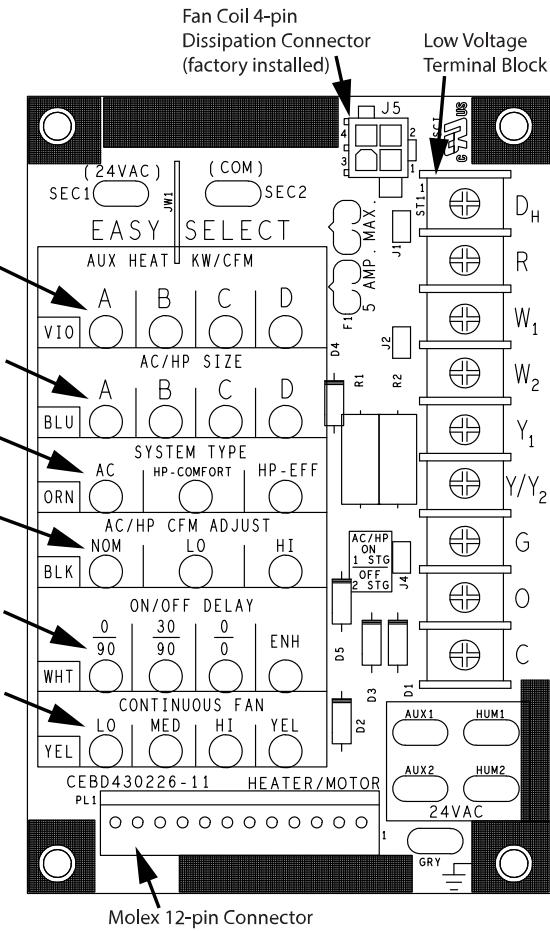
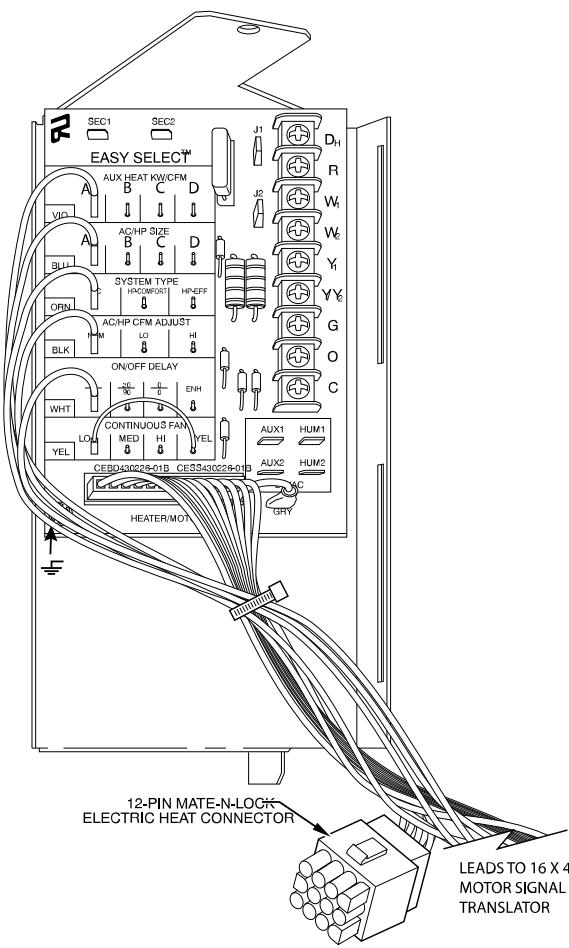

Fig. 20 – Detail of Printed-Circuit Board
Fig. 21 – Connection Detail of Printed-Circuit Board (also showing 12-pin cable) FTMA5 A95276B
Easy Select taps are used by the installer to configure a system. The ECM motor uses the selected taps to modify its operation to a pre-programmed table of airflows (see Table 8 and Table 10). Airflows are based on system size or mode of operation and those airflows are modified in response to other inputs such as the need for de-humidification (see Fig. 20 and Fig. 21 and Table 6).
Installer must select the auxiliary heat airflow approved for application with kW size heater installed. If no heater is installed, this step can be skipped. Each select pin is marked with a range of heaters for which airflow, also marked, is approved. For increased comfort select the narrowest kW range matching the heater size, for example, 0-10 for 10-kW heater. This airflow must be greater than the minimum CFM for electric heater application with the size system installed for safe and continuous operation (see Table 11 and Table 12 for airflow delivery and minimum CFM). Note that airflow marked is the airflow which will be supplied in emergency heat mode and heating mode on air conditioners when electric heat is the primary heating source. In heat pump heating mode when electric heaters are energized, the ECM motor will run the higher of heat pump heating airflow and electric heater airflow to ensure safe heater operation. The factory selection is the largest heater range approved (see Fig. 20, A as indicated).
The factory setting for air conditioner or heat pump size is the largest unit meant for application with the model of fan coil purchased. Installer needs to select air conditioner or heat pump size to ensure that airflow delivered falls within proper range for the size unit installed. This applies to all operational modes with the exception of electric heat modes (see Fig. 20, B as indicated).
3. HP-EFF - Heat Pump Efficiency provides same airflow for heating and cooling modes to increase overall HP efficiency; approximately 350 CFM per ton. The factory setting is AC. (See Fig. 20, C as indicated.)
To provide airflow at rates described above, the AC/HP ADJUST select is factory set to the nominal (nom) tap. The adjust selections HI/LO will regulate airflow supplied for all operational modes, except non-heat pump heating modes. HI provides 15% airflow over nominal unit size selected and LO provides 10% airflow below nominal unit size selected. Adjust selection options are provided to adjust airflow supplied to meet individual installation needs for such things as noise, comfort, and humidity removal (see Fig. 20, D as indicated).
Four motor operation delay profiles are provided to customize and enhance system operation (see Fig. 20, E as indicated). Selection options are:
- HI speed - move connector of HI, 100% cooling mode airflow (see Fig. 20, F as indicated).
The following fan coil configuration is recommended for maximum heating and cooling/dehumidifying comfort (see Fig. 20):
- If the fan coil is installed with Heat Staging capable electric heaters, remove jumper J2 (see Fig. 20).
The AUX and HUM terminals on the Easy Select Board are tied directly to the G terminal, and provide a 24VAC signal whenever the G terminal is energized (see Fig. 20).